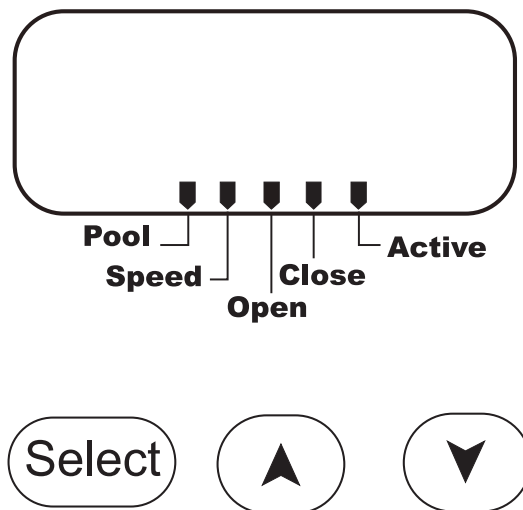

Figure 46 - Temperature Control Display and Programming Keys
An LCD is provided to display various readings and operating parameters. Three (3) pushbuttons are available to change the display and to program parameters (Figure 46).